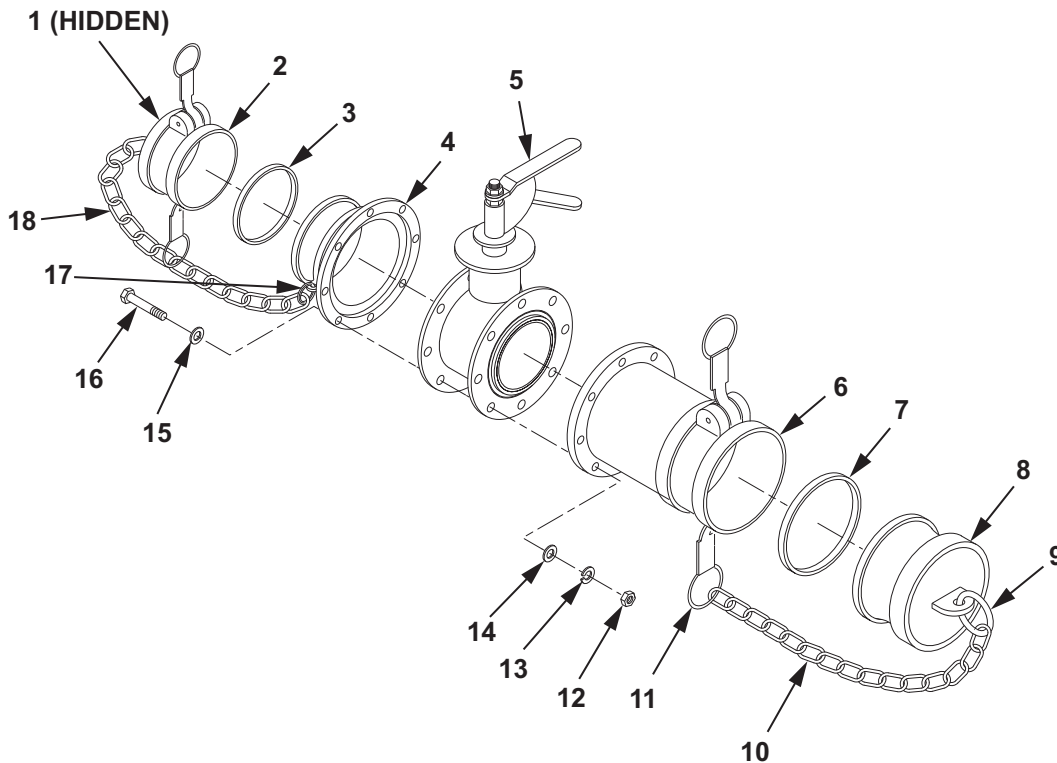

Figure 1. Butterfly Valve Disassembly.
1. Remove quick disconnect dust cap (Figure 1, Item 2) and gasket (Figure 1, Item 3) from coupling (Figure 1, Item 4).
2. Remove quick disconnect dust plug (Figure 1, Item 8) and gasket (Figure 1, Item 7) from coupling (Figure 1, Item 6).
3. Remove eight nuts (Figure 1, Item 12), lockwashers (Figure 1, Item 13), washers (Figure 1, Item 14) and coupling (Figure 1, Item 6) from butterfly valve (Figure 1, Item 5).
4. Remove eight screws (Figure 1, Item 16), washers (Figure 1, Item 15) and coupling (Figure 1, Item 4) from butterfly valve (Figure 1, Item 5).
5. Discard gaskets (Figure 1, Item 3, 7) and lockwashers (Figure 1, Item 13).
6. Remove split rings (Figure 1, Item 9, 11) from quick disconnect dust plug (Figure 1, Item 8) and coupling (Figure 1, Item 6).
7. Remove split rings (Figure 1, Item 9, 11) from chain (Figure 1, Item 10).
8. Remove split rings (Figure 1, Item 1, 17) from coupling (Figure 1, Item 4) and quick disconnect dust cap (Figure 1, Item 2).
9. Remove split rings (Figure 1, Item 1, 17) from chain (Figure 1, Item 18).